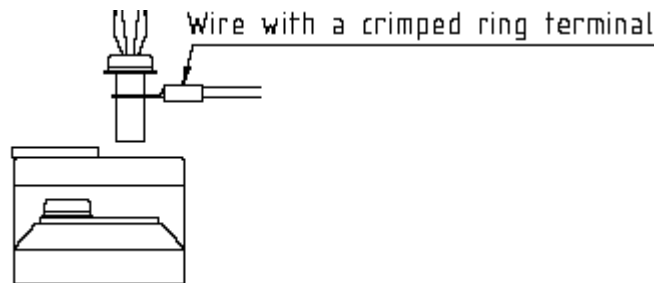

FIGURE 2-17
- Refer to **Figure 2-17**. Insert the crimped ring terminal into the screw. Make sure that the crimped ring terminal is not angled.